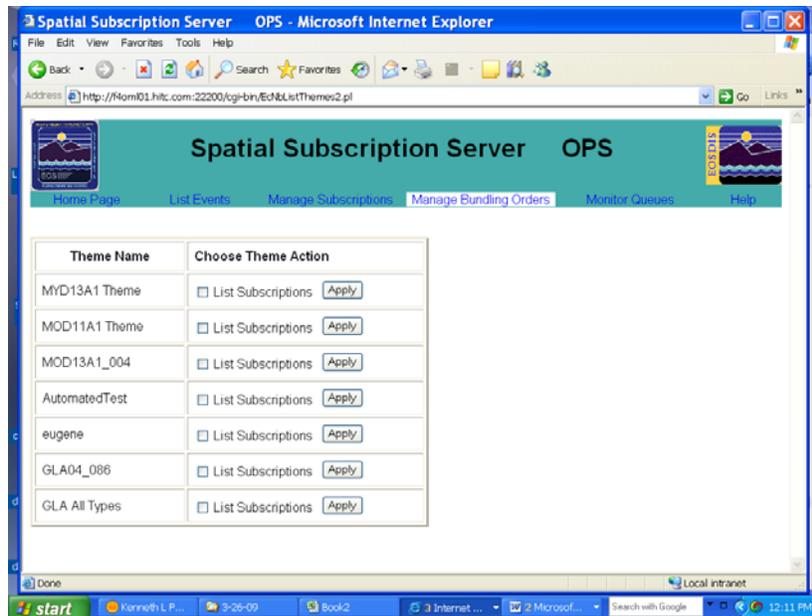

Figure 16.1-9. Spatial Subscription Server GUI Theme List Page
- The **Theme List** page is displayed (see Figure 16.1-9) with columns containing the following types of theme information: